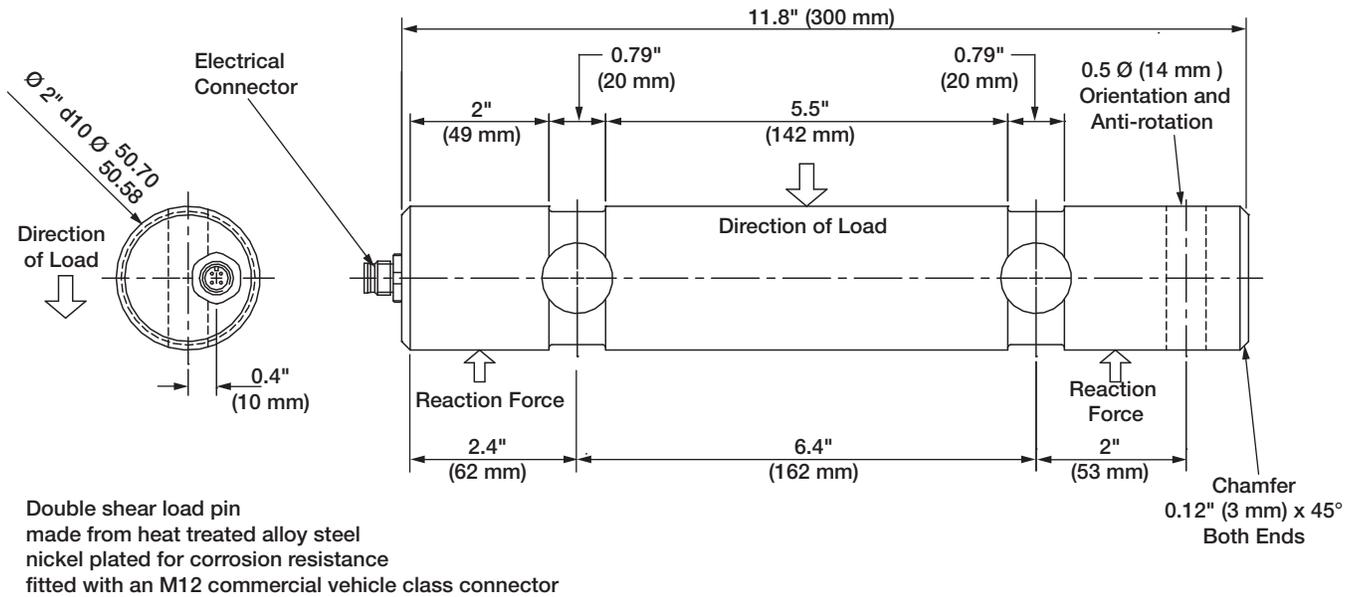

Figure 2-2. 2 Inch Diameter Load Pin (PN 131207)
- 2 inch diameter (see Figure 2-2) Dump Truck
Note The load pins have arrows indicating the downward force, or direction of load applied to register a positive weight value. See Figure 2-2 for load pin specifications and load direction.